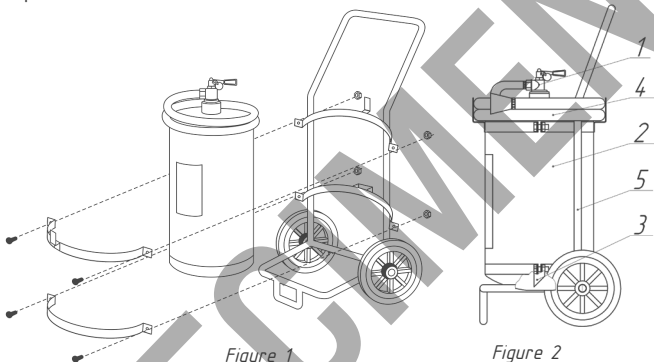

Figure 1
4.1 Fire extinguisher design is shown in the Figure 1.
4.2 The fire extinguisher is disassembled from the trolley (for repair etc.) by loosening the bolts and nuts securing the clamps. [see Figure 1]